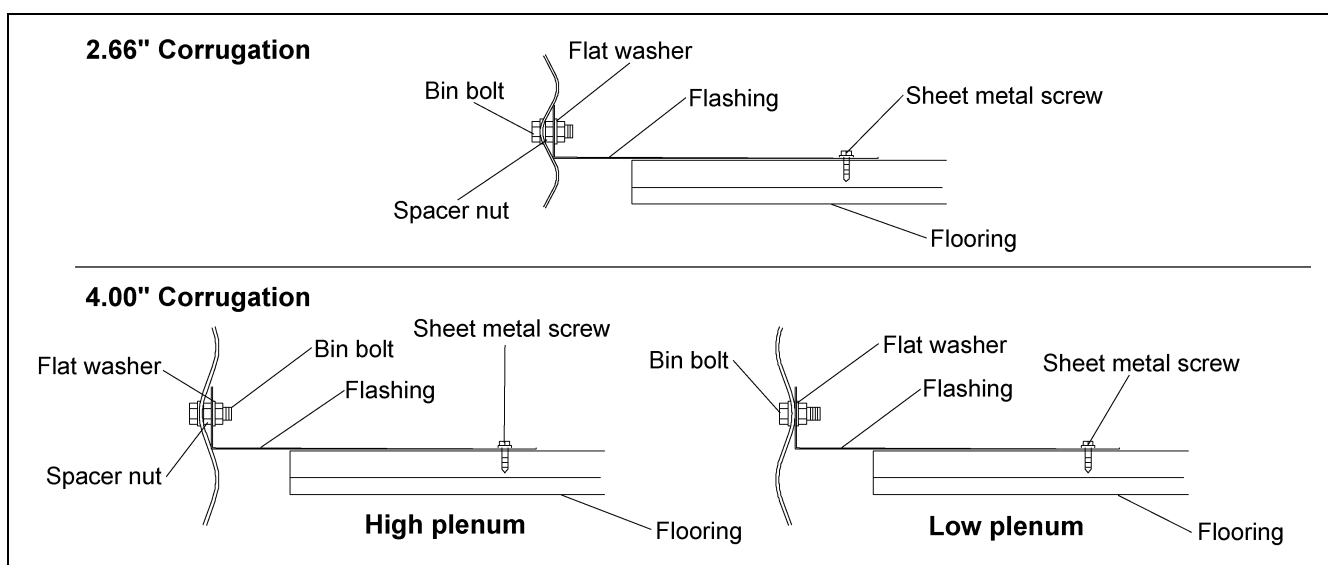

Figure 6B
After floor is in place, place 1-1/4" bolts through pre-punched holes in sidewall. Bolt heads should be on outside of bin. See Figure 6B to determine the correct sequence for placing the nuts and washers. Finger tighten the nuts until all flashing is installed, then go back and fully tighten. While holding the flashing flat and pushing in towards the bin wall, fasten the flashing to the floor with two (2) sheet metal screws.